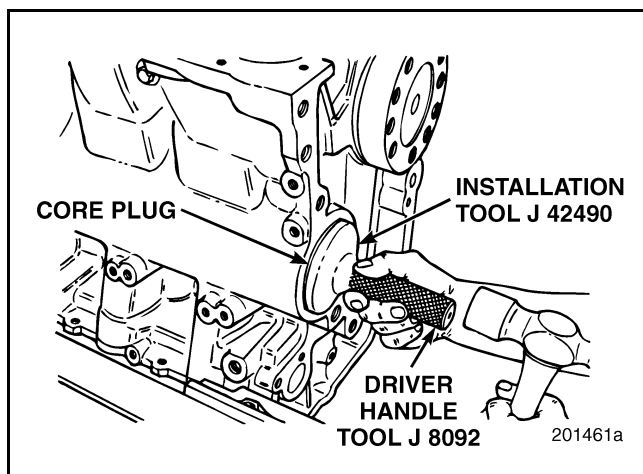

Figure 353 — Camshaft Core Plug Installation
3. Drive the core plug into place by striking the installation tool with a hammer (Figure 353) until the core plug is seated. The core plug is fully seated when the step in the installation tool bottoms against the block.